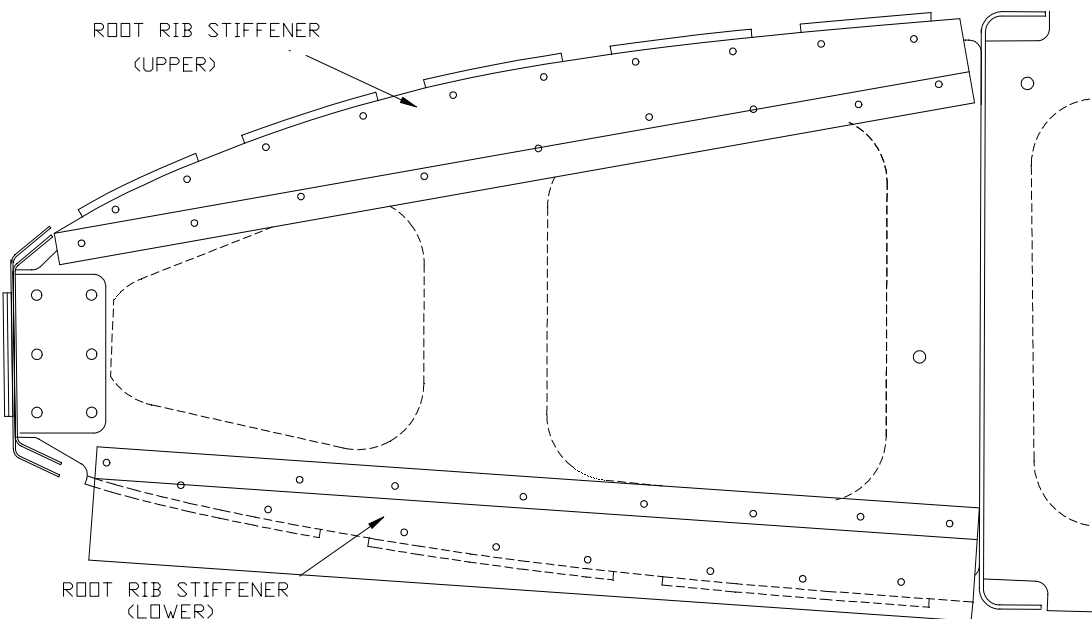

Figure 8.13.3
6) Repeat steps for the bottom edge of the Leading Edge Root Rib. Figure 8.13.3.